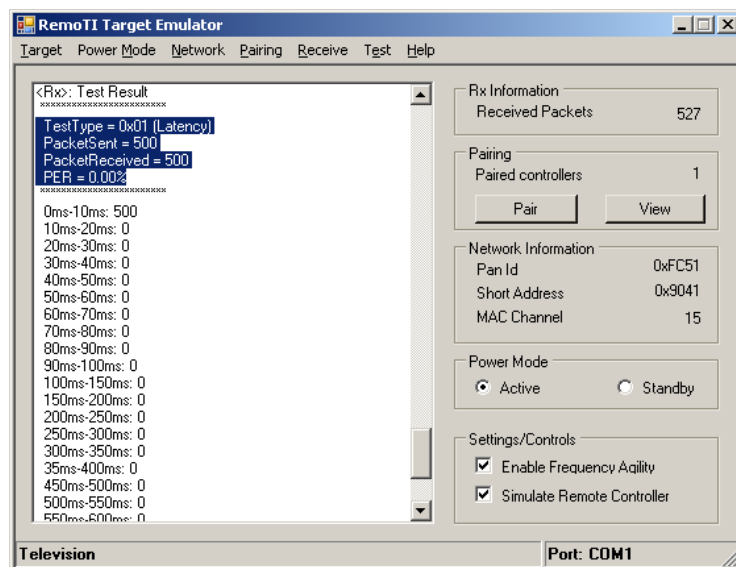

Figure 13. Target Emulator Example Test Report.
5. The RC is in TEST COMPLETE STATE when the RC LED is solid on. Press the 'OK' key to send the test report to the target emulator. After RC receives an ACK from the target node, it enters TEST READY STATE. Figure 13 below shows an example test report.
The test report will provide the following information as seen in Figure 13: